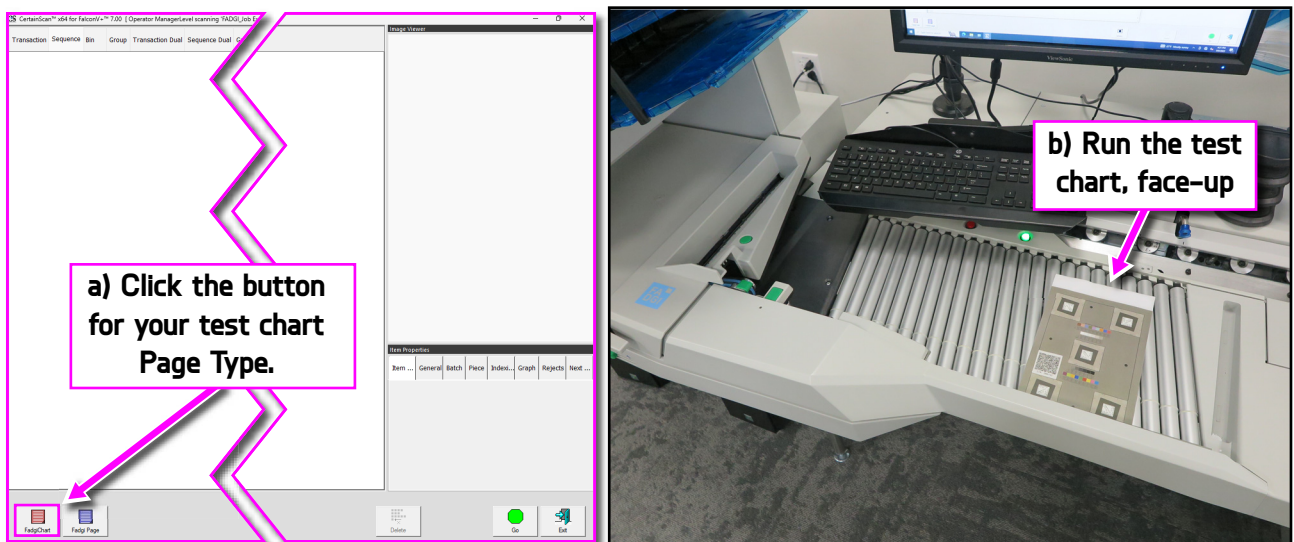

Figure 3-35: Scan the test chart face up
- Click the button for the test chart Page Type. Scan the test chart face up (Figure 3-35).